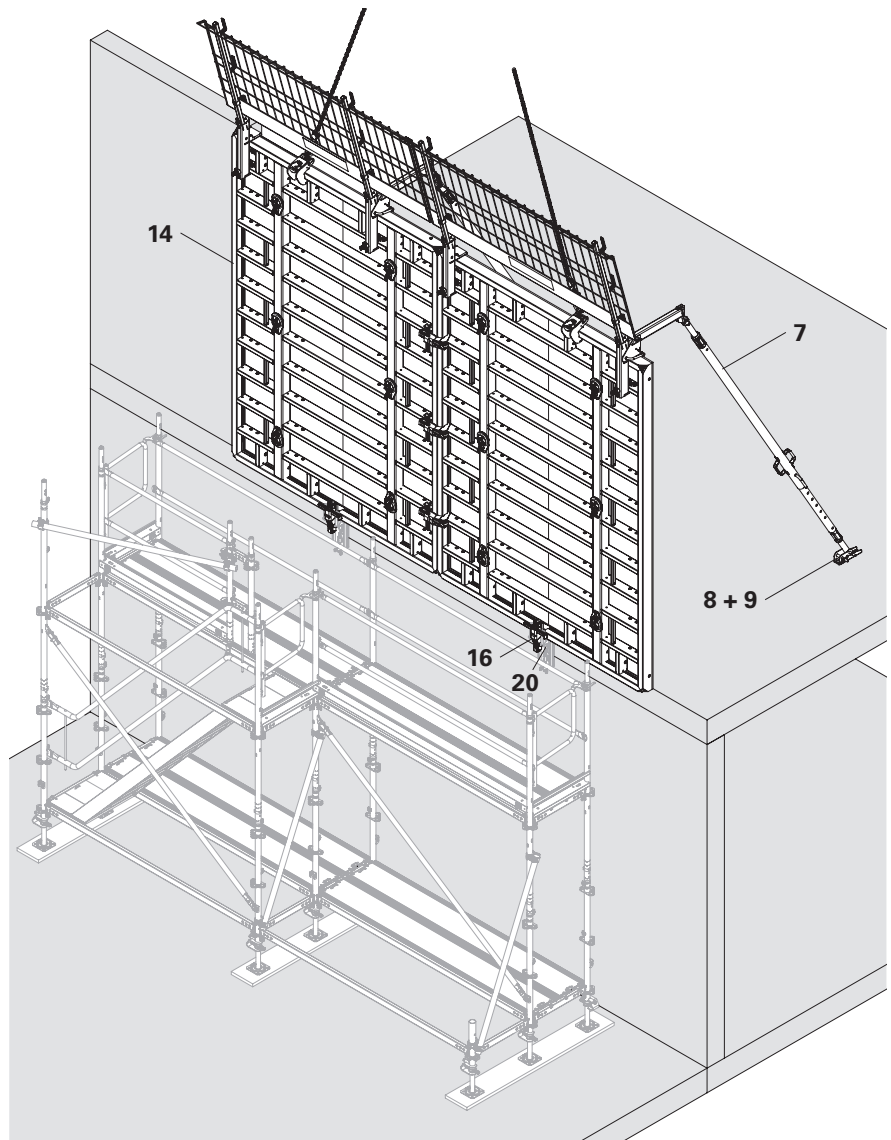
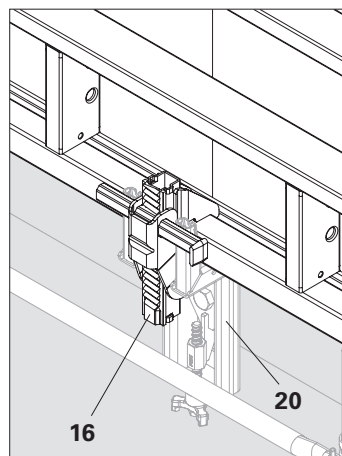

Fig. B3.02
Fig. B3.03
1. Move the formwork unit (14) to the assembly position with a crane and position it on the Wall Formwork Brackets MX WK (20).
2. Align the formwork unit (14) and clamp it to the Wall Formwork Bracket MX WK (20) from a safe working position using Alignment Coupler BFD (16).
- ⇒ The formwork unit (14) is pushed onto the concrete slab and via the Alignment Coupler BFD (16) and simultaneously fixed to the Wall Formwork Bracket MX WK (20). (Fig. B3.03)
3. Set the inclination of the Push-Pull Props (7) to 60° from the horizontal.
4. Fasten Base Plate-3 f. RS 210-1400 (8) with Anchor Bolt SW24 Ø14/20x130 TG (9).
7. Remove the Lifting Hook MAXIMO 1.5t (6).
8. Set up formwork unit (14) with Push-Pull Props RS (7).
- (Fig. B3.02)